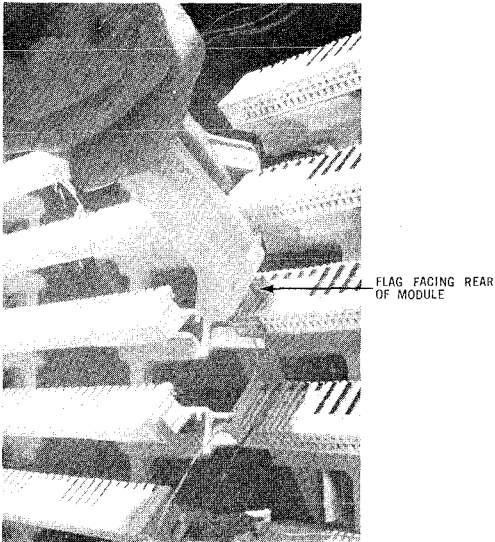

Fig. 9
- 4.04** To terminate the jumper wire on the binding post, insert the impact tool in the channel slot, perpendicular to the surface of the module with the flag portion of the head of the tool facing the rear of the module Fig. 9.